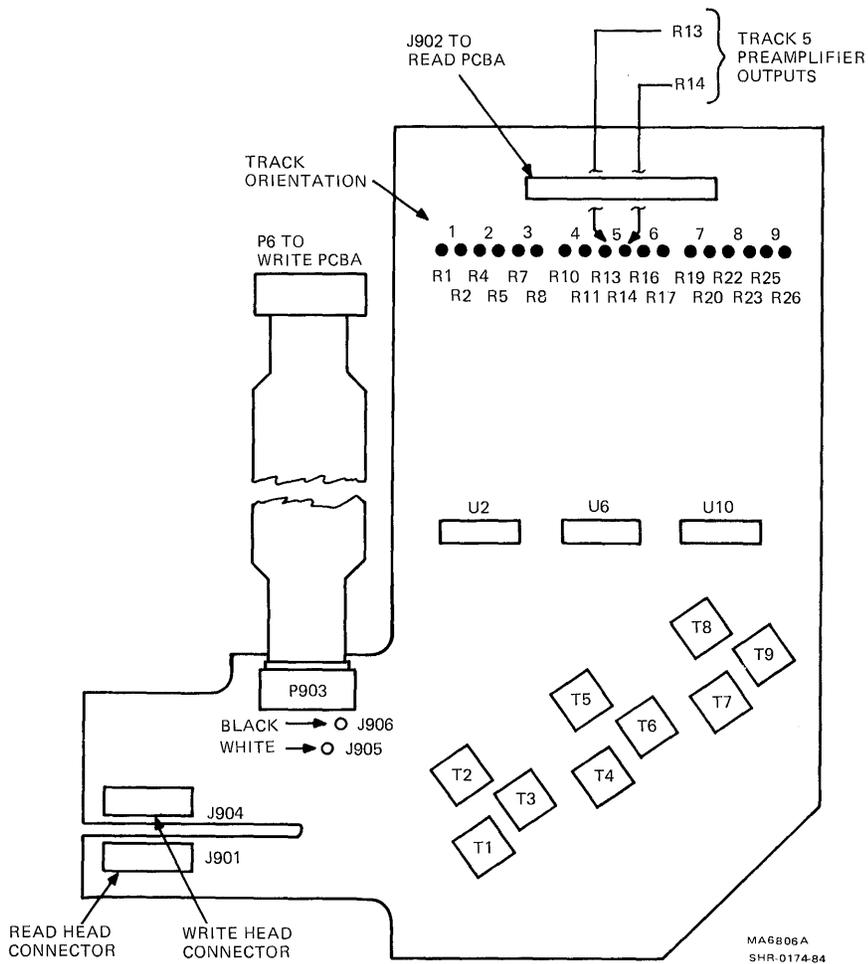

Figure 3-9 GCR/PE Preamp 1 PCBA Test Points
- Connect an oscilloscope to the TU78. Vertical CH1 to GCR/PE preamp 1 PCBA R14 top lead (Figure 3-9)
- Connect an oscilloscope to the TU78. Vertical CH1 to GCR/PE preamp 1 PCBA R14 top lead (Figure 3-9), external sync to control M2 PCBA TP21 (Figure 3-6)